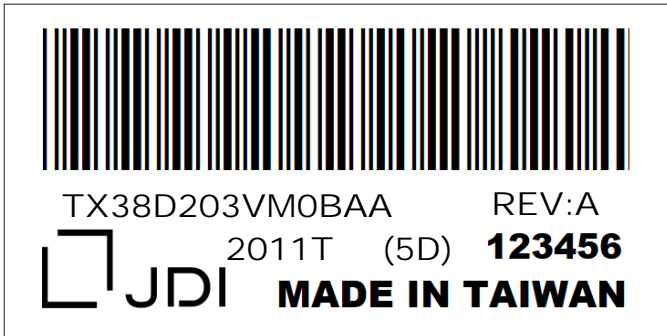

Fig 13.2
3) The location of the lot mark is on the back of the display shown in Fig. 13.2.